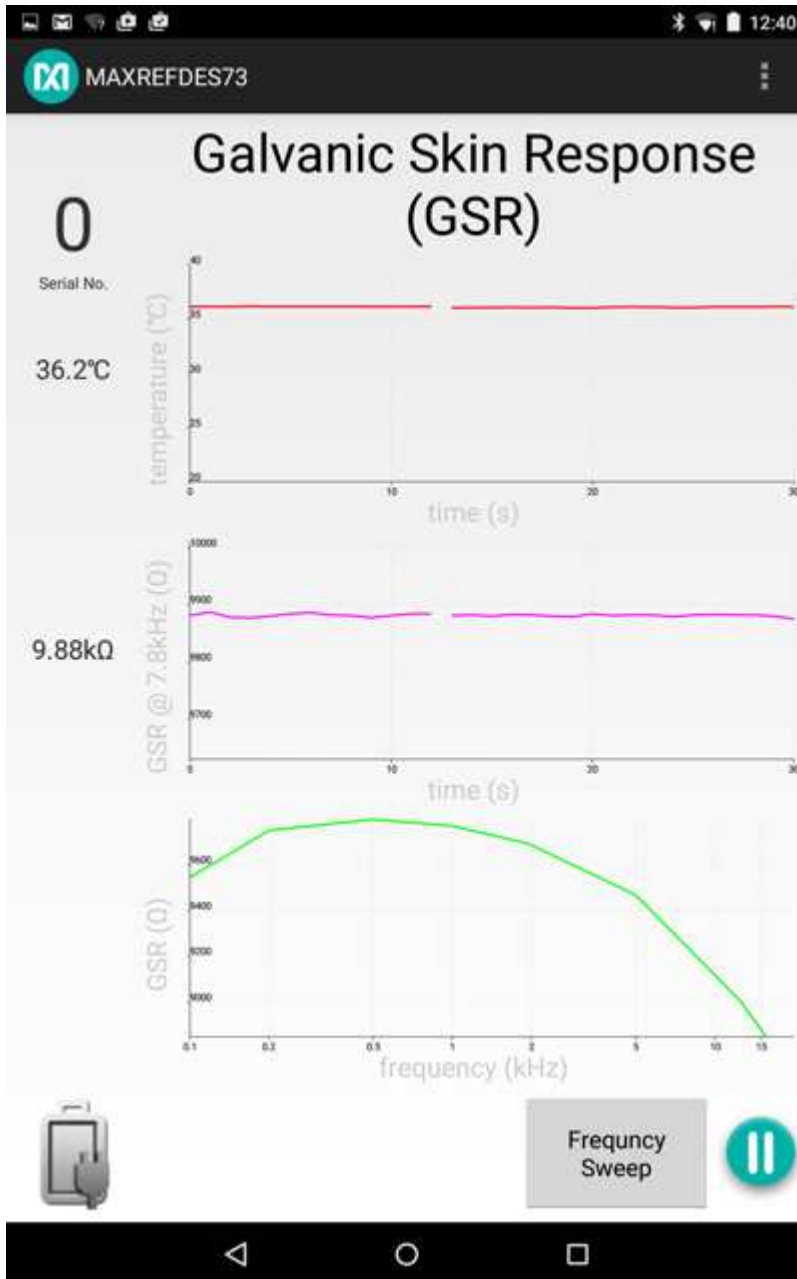

Figure 6. MAXREFDES73# mobile app screenshot.
8. Tap **Frequency Sweep** icon on the mobile app. About 5s later, the Bode plot is updated with the latest data from the device. A screenshot is shown in **Figure 6**.